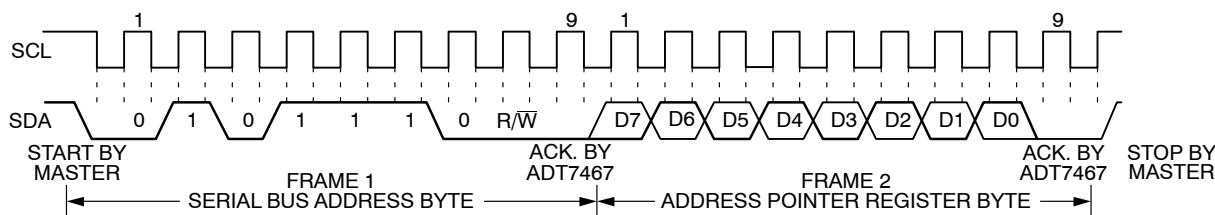

Figure 16. Writing to the Address Pointer Register Only
1. If the address pointer register value of the ADT7467 is unknown or not the desired value, it must be set to the correct value before data can be read from the desired data register. This is achieved by writing a data byte containing the register address to the ADT7467. This is shown in Figure 16. A read operation is then performed